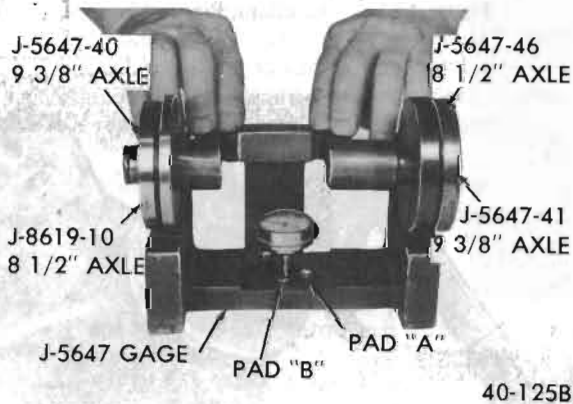

Figure 40-131 - Zeroing Pinion Setting Gage
5. Place the indicator gage on the master gage, as shown in Figure 40-131 so that its spring loaded center is engaged in the centering hole for Pad "B" on the Master Gage.